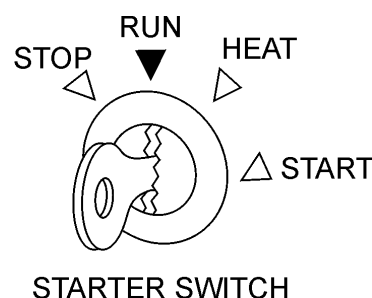

Figure 24. Starter Switch
1. Insert the key into the starter switch (Figure 24) and turn it to the **RUN** position. Check to see that the oil pressure and charge lights on the "Warning Lamp Display" are lit. If either light is not lit, check the system and wiring (refer to the Engine Operation Manual).